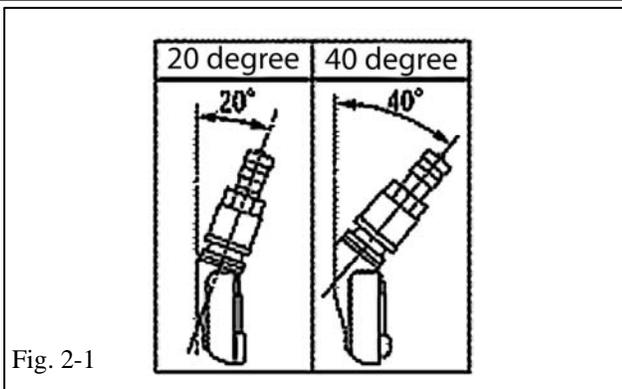

Fig. 2-1
**40 degree sensors are NOT re-used on ANY TRD Accessory Alloy Wheels! (Fig. 2-1)**